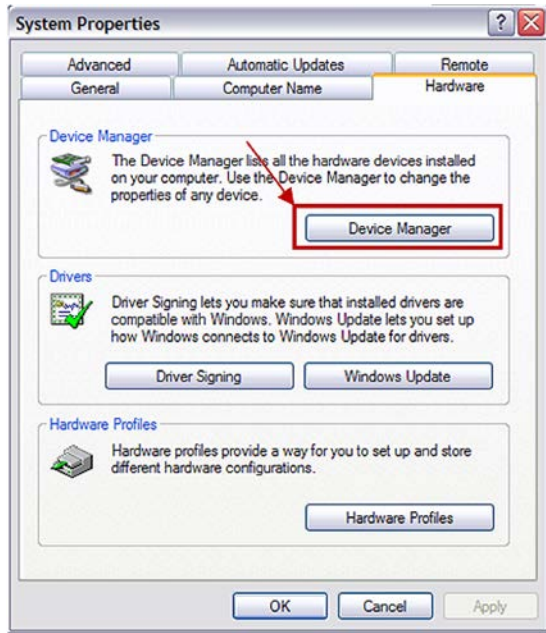

Figure 7. System Properties
2. Click the **Hardware** tab of the **System Properties** window (see Figure 7).